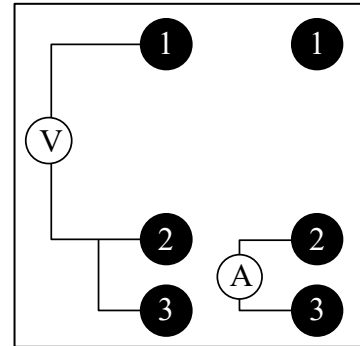

Fig. 8-2 Measuring instrument connection
2. Plug the measuring cable connectors into measuring sockets 2 and 3 and into the relevant measuring sockets on the multimeter (see Fig. 8-2).